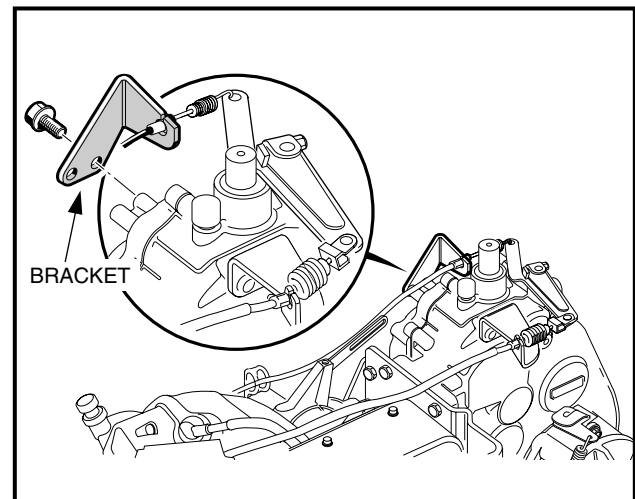

**Figure 16b-95 Transaxle Mounting**
7. Install the accelerator cable bracket on transaxle case. Tighten the mounting screws to 134 in-lb (15.1 N·m) (**Figure 16b-97, Page 16b-42**).
8. Install the governor cable bracket on transaxle case. Tighten the mounting screws to 134 in-lb (15.1 N·m) (**Figure 16b-98, Page 16b-43**).